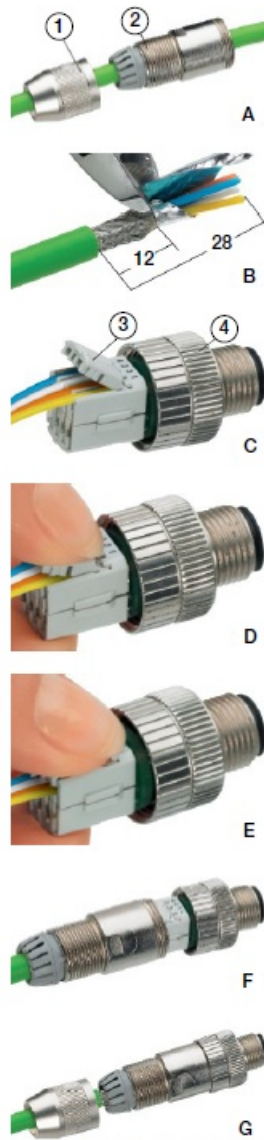

Figure 2-1. Cable Assembly
1. Slide the pressure nut (item 1) and the housing (item 2) over the cable (Figure 2-1–A).
2. Strip the cable sheath over a length of approximately 1" (28 mm). Trim the braided shield to a length of approximately 1/2" (12 mm) (Figure 2-1–B). See Table 2-1 for the core assignment.
3. Guide the individual cores fully into the marked chambers. Make sure to use the correct chambers and only one core per chamber (Figure 2-1–C).
4. Contact the cores by pressing the termination block (item 3) to the plug insert (item 4) according to views D and E (Figure 2-1–D and E). The termination block engages at the end stop.
5. Pull the housing (item 2) over the plug insert (item 4), hold the plug insert tight and screw the housing onto it (Figure 2-1–F).
6. Push pressure nut (item 1) on the housing. Tighten the pressure nut firmly (Figure 2-1–G).